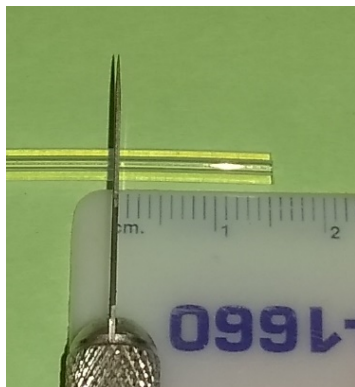

Figure 8. Preparation of 3 mm OD alignment pin tubing for use with a cell that incorporates flow frames.
- ii. If the cell build includes Teflon flow frames (only used with red/liquid end plates), the alignment pin tubing pieces will have to be cut to about 15 mm length each. See Figure 8.